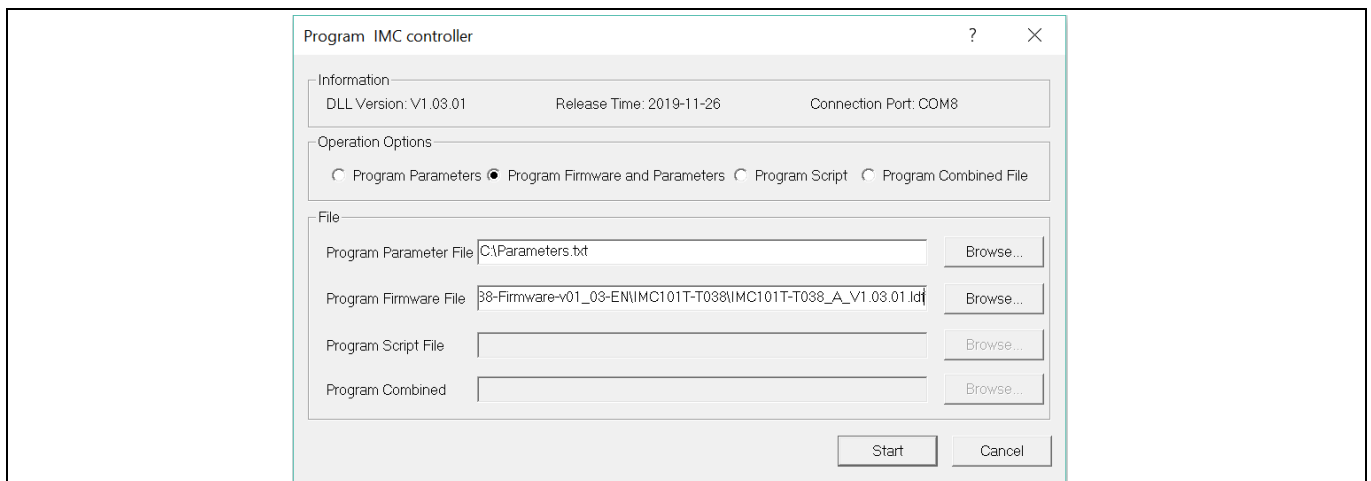

Figure 6 Program the parameters and firmware
5. Use the following steps to program the firmware and the parameters' file into the internal flash memory of iMOTION™ Control IC: click on system page, click “Tools” > “Programmer” and select “Program Firmware and Parameters.” Shown as in Figure 6 below. The encrypted firmware is available at “IMC101T MCE Software Package;” regarding the parameters' file, browse and select the'.txt' file in Section 2.1.2.